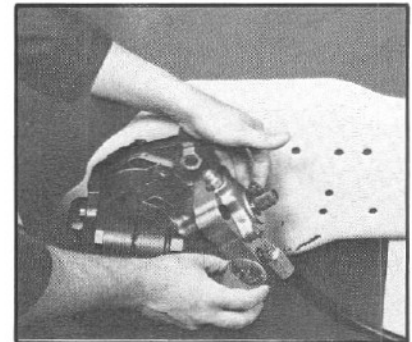

Figure 25
- 2.8 Pack the area around the input shaft with Mobil Temp 1 or 2 grease (FIG. 25).